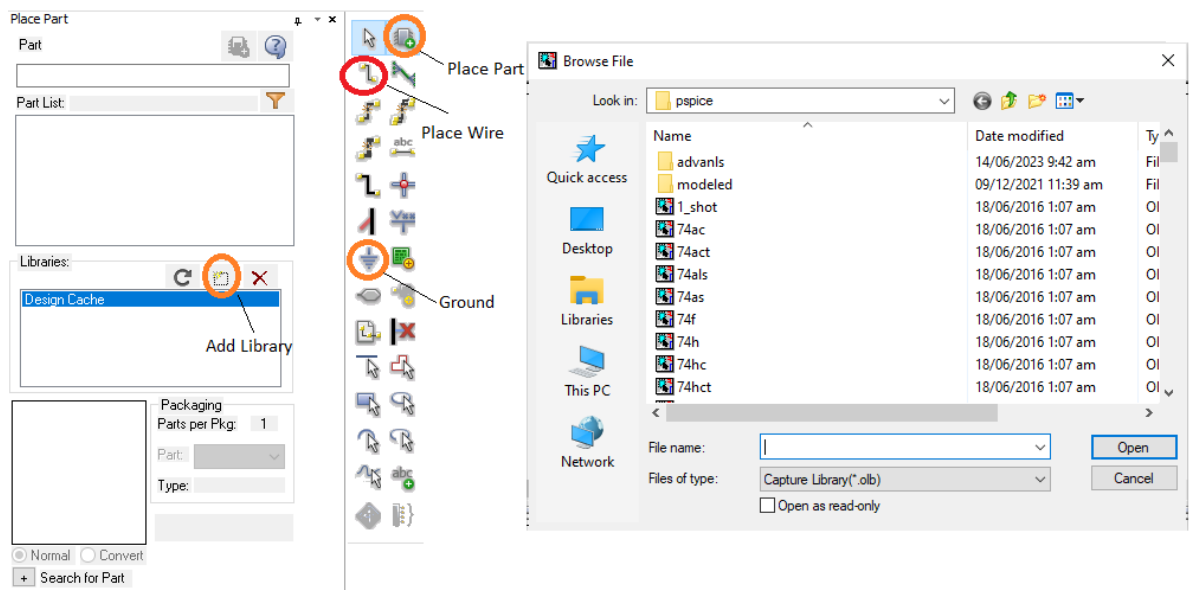

Figure 1.5: Place Part
- Now that all parts are placed, we can use the wire tool to connect the them. Select the “Place Wire” item from the “Place” menu (or click on the second item on the left side of the vertical tool-bar) to activate the wire tool, refer Figure 1.5. The cursor turns into a cross-hair.
- Every PSpice circuit needs a ground connection. To add a ground, use the menu (Place → ground) or click on the “ground” item in the vertical tool-bar or press key G, refer Figure 1.5. A dialog opens. Choose the 0/CAPSYM. Place the ground in the desired place in the drawing and then use the wire tool to connect it into the circuit.